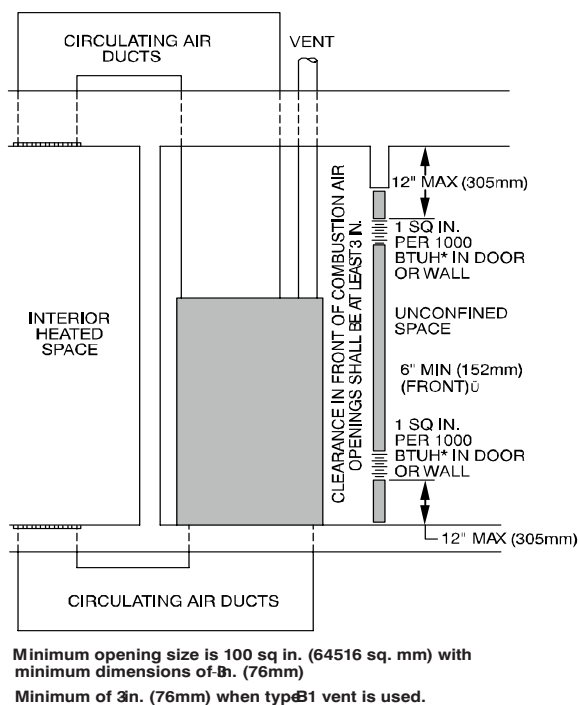

Fig. 7 – Air for Combustion, Ventilation, and Dilution from Indoors ^{L12F013}
- Combining spaces on same floor level. Each opening shall have free area of at least 1 in.²/1,000 BTUh (2,000 mm²/kW) of the total input rating of all gas appliances in the space, but not less than 100 in.² (0.06 m²). One opening shall commence within 12 in. (300 mm) of the ceiling and the second opening shall commence within 12 in. (300 mm) of the floor. The minimum dimension of air openings shall be at least 3 in. (80 mm) (Fig. 7).